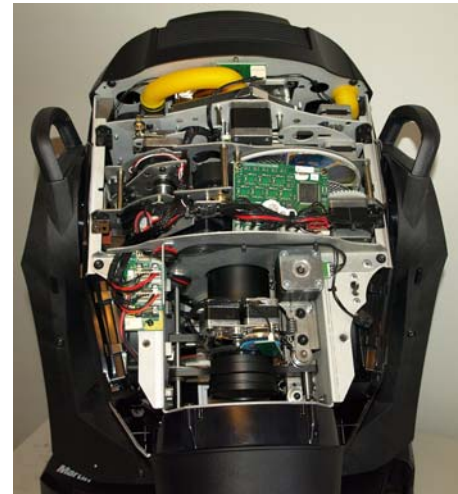

**Figure 12: Access to the head**
2. See Figure 12. Remove both head covers by loosening their Torx 25 captive retaining screws **A** until the screws turn freely. Lift the front of each cover slightly away from the head, then slide the cover towards the front of the head to release the rear of the cover.
1. See Figure 12. Hold each cover up to the head and fasten its safety wire retaining clip **B** into the head chassis by pressing the clip through its hole and then sliding it until it is held securely.